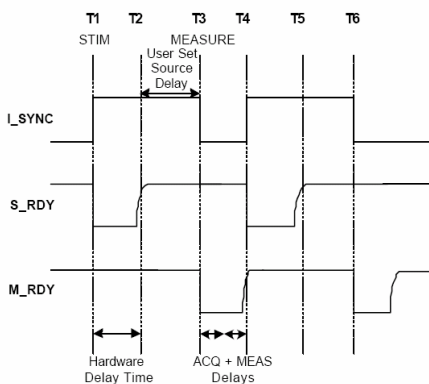

Figure 7-12 Timing Diagram for Master / Slave Operation
The HSIS master module initiates the operation by setting a trigger bus signal from logic low to logic high as shown in Figure 7-12 below at point T1. This rising edge synchronizes all slave modules with output functionality to begin the setting up of the stimulus. The S_RDY signal on these modules will go to logic low.
S_RDY will remain at logic low until all slave modules are ready to move onto the 'M' cycle. When completed these modules will release their S_RDY signal. After the last module has released the S_RDY signal, as shown in Figure 7-12 at T2, the master will detect this change and add in a user defined delay before returning to a logic '0' value as shown at T3 below. The user-defined delay is implemented to allow UUT settle time to occur.
After the last slave module has released the M_RDY signal, as shown in Figure 7-12 at T4, the master will detect this change and the whole process can begin again for the number of steps programmed into the test application by the user. The measurement data is loaded into a memory location for later retrieval.
- Settle Time: 2 Byte value storing a user defined delay in multiples of 1.25uS or 20uS or 640mS for all steps within this block. Stim/Measure systems, this delay defines the period shown between T2 and T3 on Figure 7-12. For measuring only applications, this value defines the period during which the I_SYNC signal will remain high.